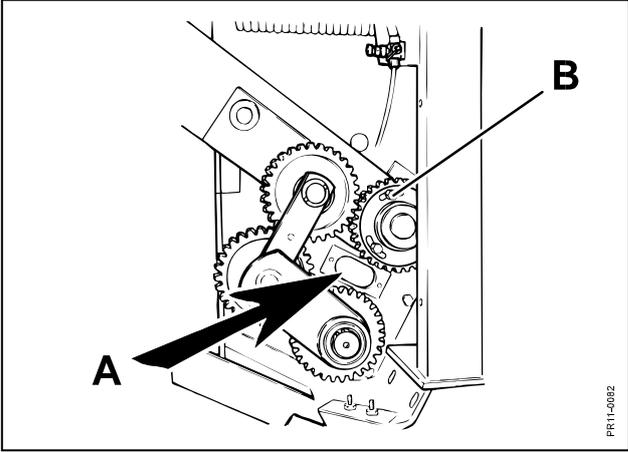

Fig. 3-27
**Fig. 3-27** The synchronisation can be checked through the peephole **A** between the rollers. For readjustment the 4 bolts **B** are loosened, and the roller is turned into the correct position. The bolts are tightened with 200 Nm (20 kgm).